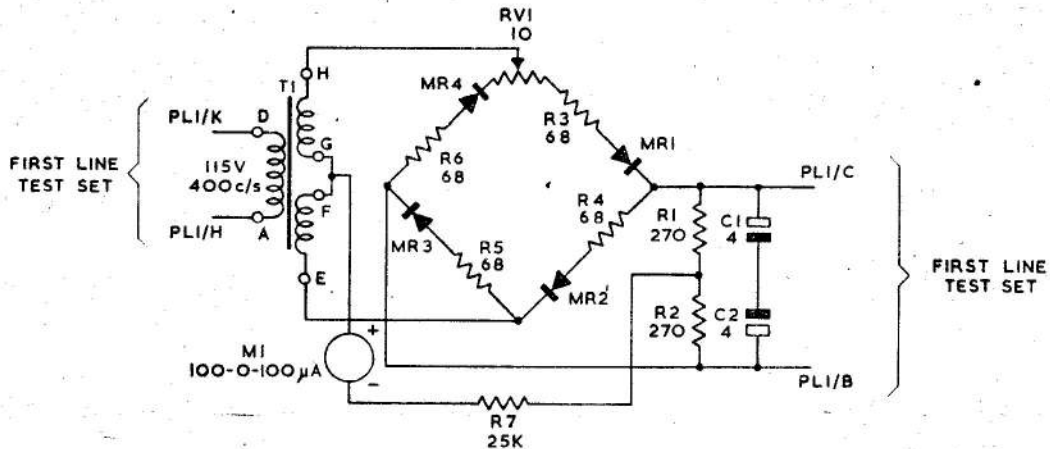

Fig. 5. Airspeed control phasing test circuit
37. Set the 'KNOTS' dial to 130, set switch S2 to ON and S3 to TEST. Connect the test circuit as shown in fig. 5 and connect the 115V supply across pins PL1/K and H.
38. Adjust the test circuit potentiometer RV1 until the test circuit meter M1 indicates zero. Increase the 'KNOTS' dial to 140 and note that the test circuit meter M1 indicates in a counter-clockwise direction. Disconnect the test circuit (fig. 5) from the test set.